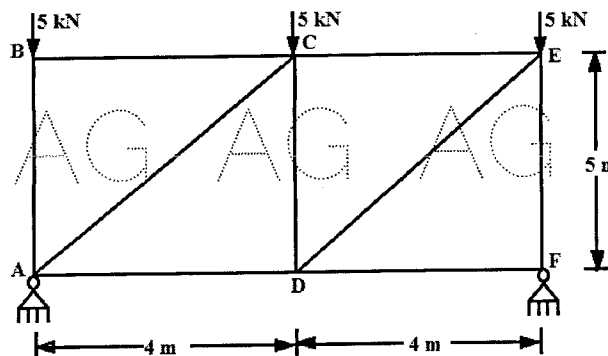

Figure 1
3. Determine the vertical displacement of joint B, as shown in figure 1. The area of cross-section of member is 550 mm^2 and $E = 200 \text{ kN/mm}^2$. [10]